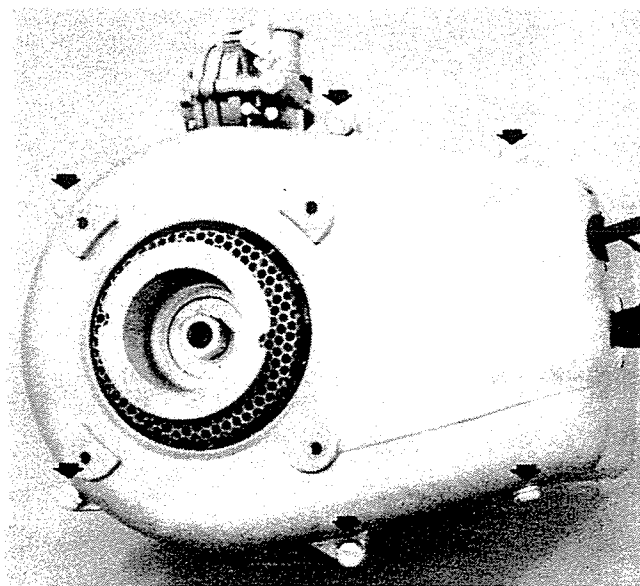

Figure 10. Installing Fan Housing.
4. Install fan housing assembly. Figure 10.